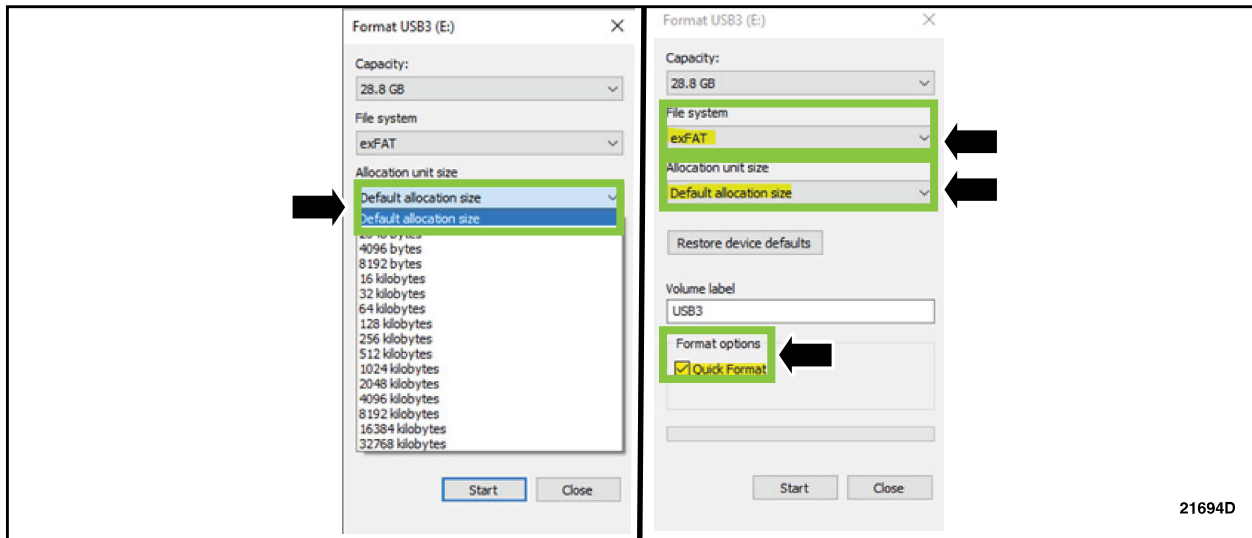

FIGURE 3
- De-selecting Quick Format is not necessary and will result in a lengthier operation. See Figure 3.